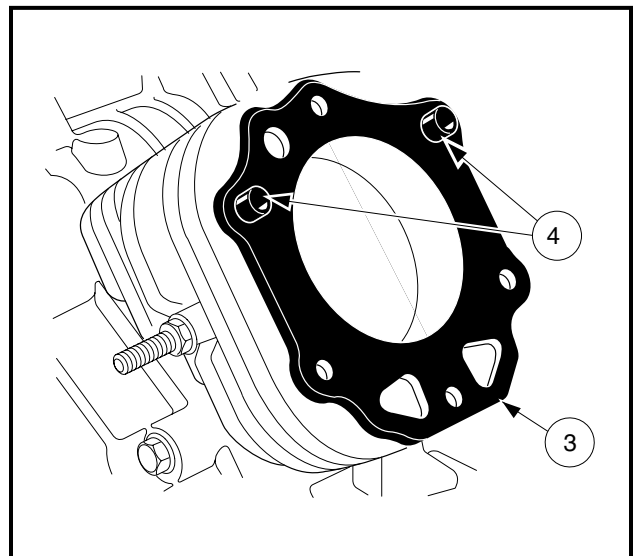

Figure 3-8 Remove Head Gasket
2. Remove head gasket (3). Note the position of the two dowels (4) as shown (**Figure 3-8, Page 3-7**).